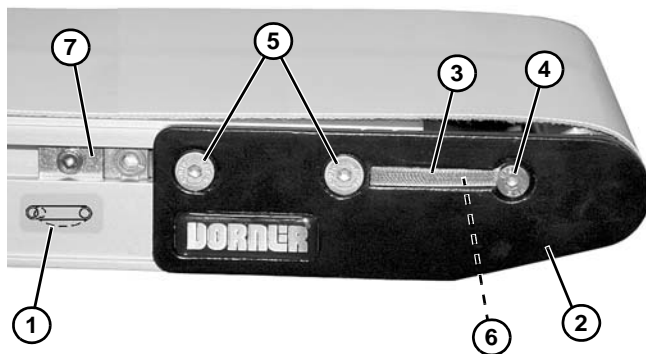

Figure 83
1. On tension end of the conveyor, identified with a  label (**Figure 83, item 1**), adjust head plate assembly (**Figure 83, item 2**):
- a. If equipped with dust covers (**Figure 83, item 3**), remove screw (**Figure 83, item 4**) and dust cover on both sides of conveyor. Reinstall screw (**Figure 83, item 4**).
- b. On both sides of conveyor, loosen fastening screws (**Figure 83, item 5**) and rotate pinion gear (**Figure 83, item 6**) to adjust head plate assembly.
3. After adjusting proper tensioning, tighten fastening screws (**Figure 83, item 5**) on both sides of conveyor to 60 in-lb (7 Nm).
4. If equipped, install dust covers (**Figure 83, item 3**).
5. If equipped with cam tracking assemblies (**Figure 83, item 7**), position against head plates and adjust belt tracking. Refer to "Conveyor Belt Tracking" on page 43.